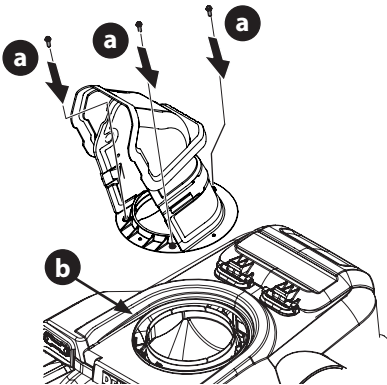

Figure 7
3. Secure the chute base with the hex washer screws (a) removed in Step 1 (Figure 7).